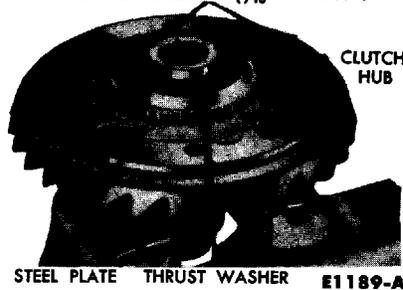

FIG. 20—Clutch Plate Installation
7. Clamp the differential case in a soft-jawed vise. Install the differential side gear on the differential pinion gears. Place the clutch hub on the side gear. Place the thrust washer on the hub (Fig. 20).
8. To align the clutch plates during assembly, insert two $\frac{3}{16}$ x 2 dowel pins into the differential case. Place a steel plate on the differential case so that the slots in the dog ears straddle the dowel pin (Fig. 20). Lubricate all the Equa-Lock differential parts with axle lubricant so that an accurate torque check can be made.